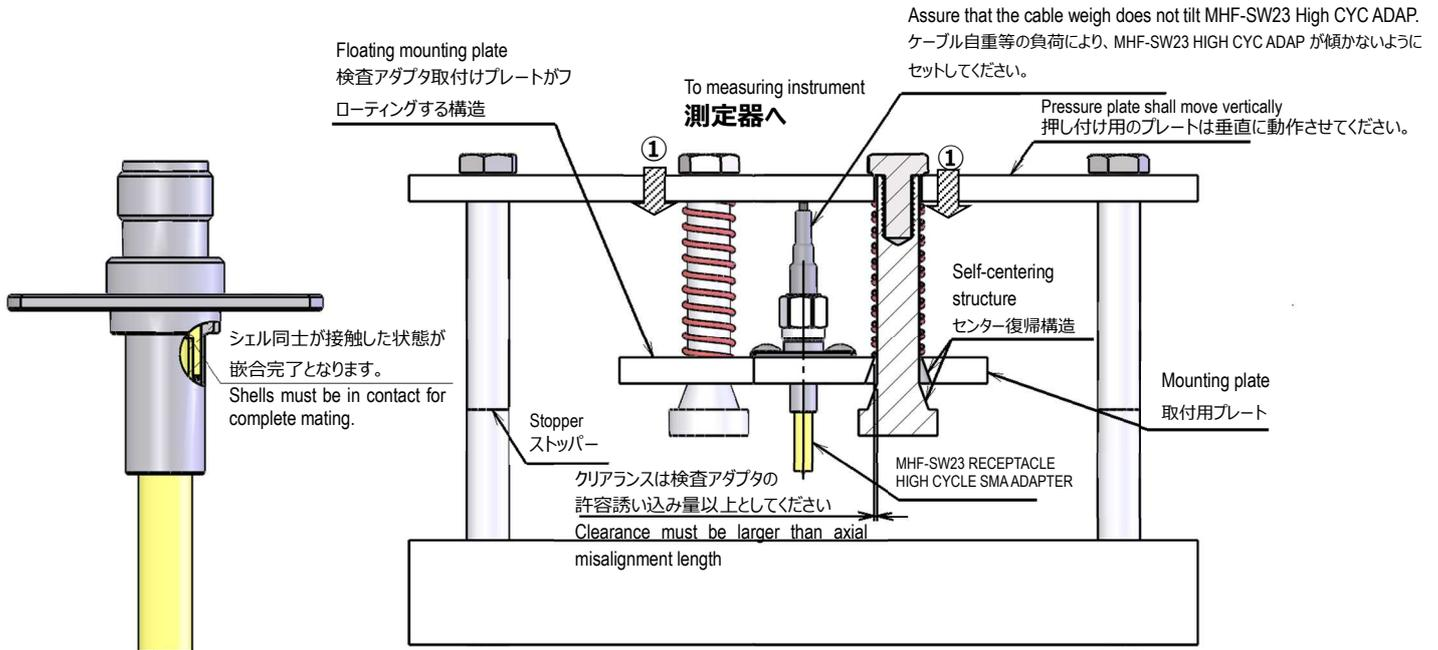

Figure 5
1. Refer to above figure 5 for layout of the jig.
3. After mating adapter to a receptacle, the total of the ①loads shall be setup within 5 to 10 N.